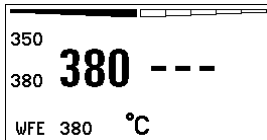

Fig. 38: front WFE connection
The WX 2 Soldering Station detects automatically which auxiliary device is connected. The WX 2 Soldering Station shows the symbol or name of the connected auxiliary device (31/25) on the left (front port (11), see Fig. 38) or right (rear port).